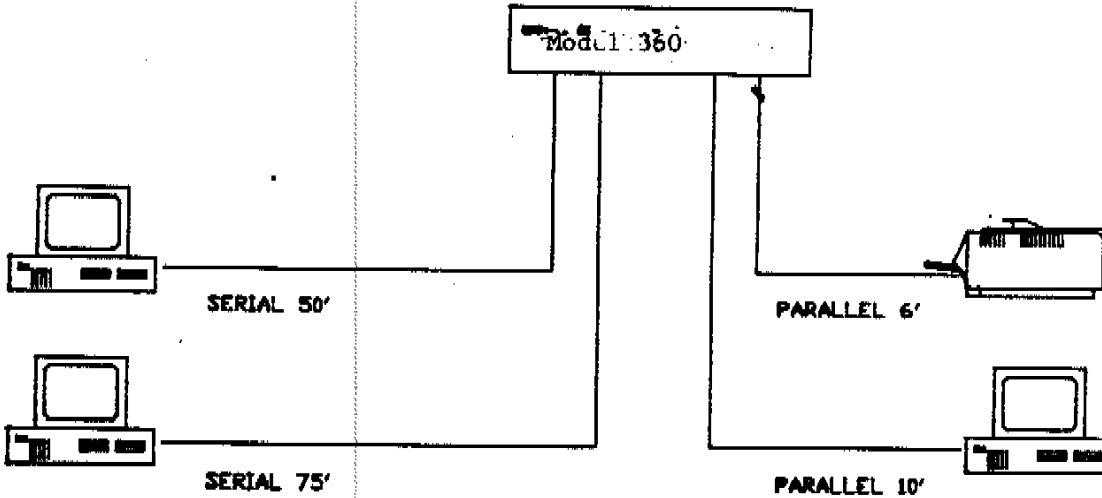

Figure 2-2
3. In determining a physical location for the Simple Sharing Switch, remember that parallel ports can only drive reliably 10 to 15 feet. Serial ports can usually drive 200 feet or more. Also if you want to use letterhead or other special paper it is best to locate the Simple Sharing Switch next to the output device. Figure 2-2 illustrates a typical installation.